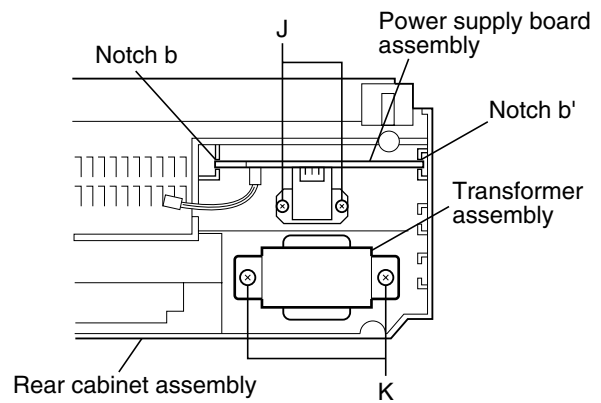

Fig.10
■ Removing the power supply board assembly and transformer assembly (See Fig.10)